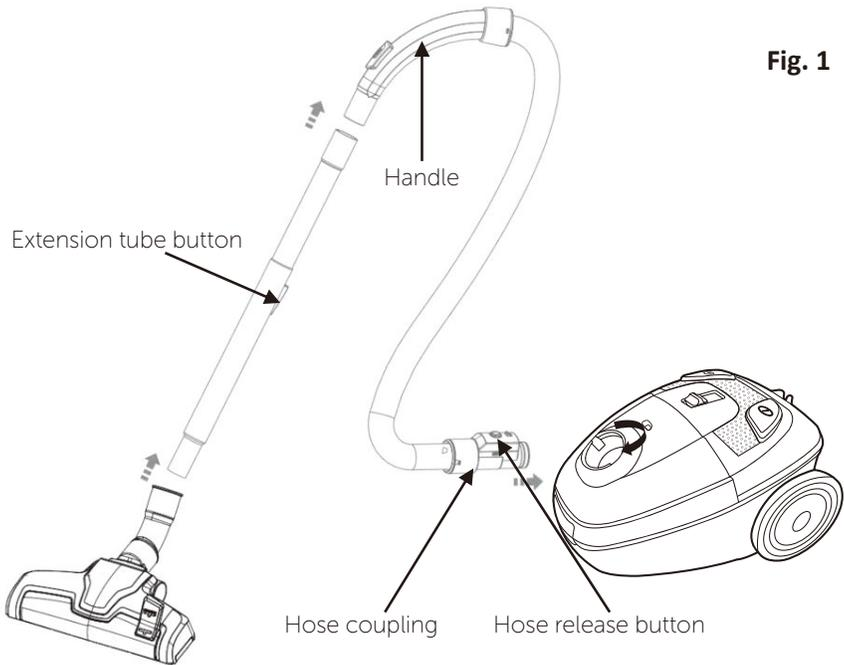

Fig. 1
2. Fit the handle of the flexible hose into the extension tube and push fit the extension tube into the (fig.1). The crevice nozzle can fit onto the curved handle and the extension tube in a similar manner.